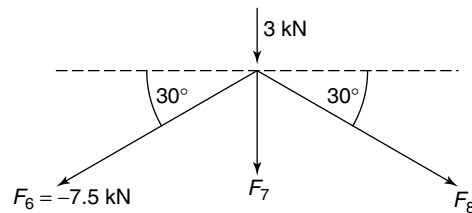

Figure 4.38
Consider joint (4); see Figure 4.38.